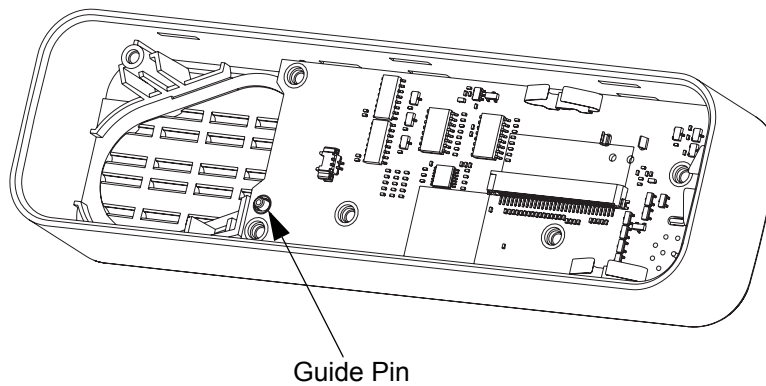

Figure 5-38 Printed Circuit Board Assembly
- c. Assemble the board to the control head assembly using the mic jack as the primary point of alignment. Verify the board is seated properly, as the guide pin on the housing should extend through the board. Refer to Figure 5-38.